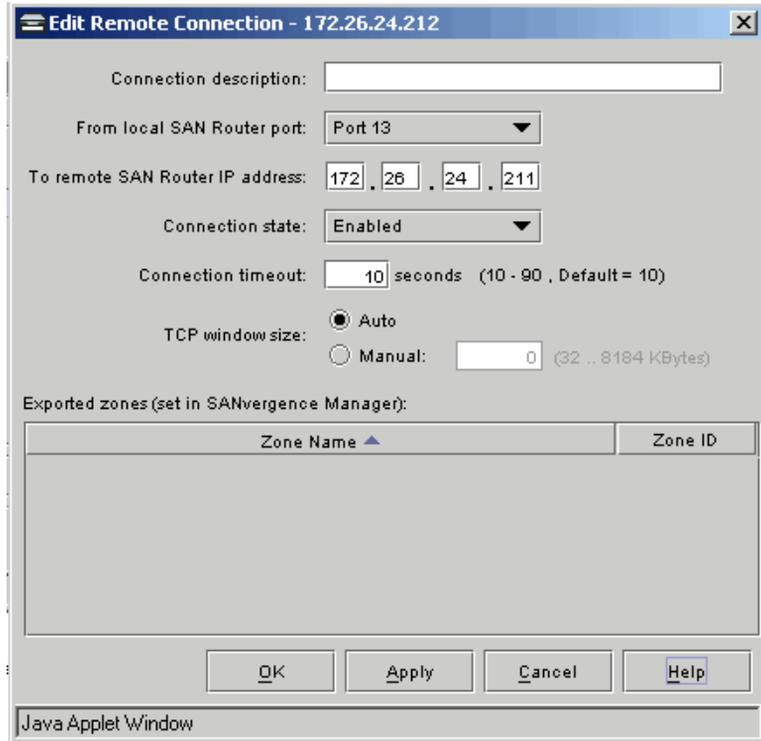

Figure 4-8 Edit Remote Connection Dialog Box
- To edit existing remote connection information, select one or more rows in the table and click *Edit*. This displays the *Edit Remote Connections* dialog box (Figure 4-8 on page 4-20).